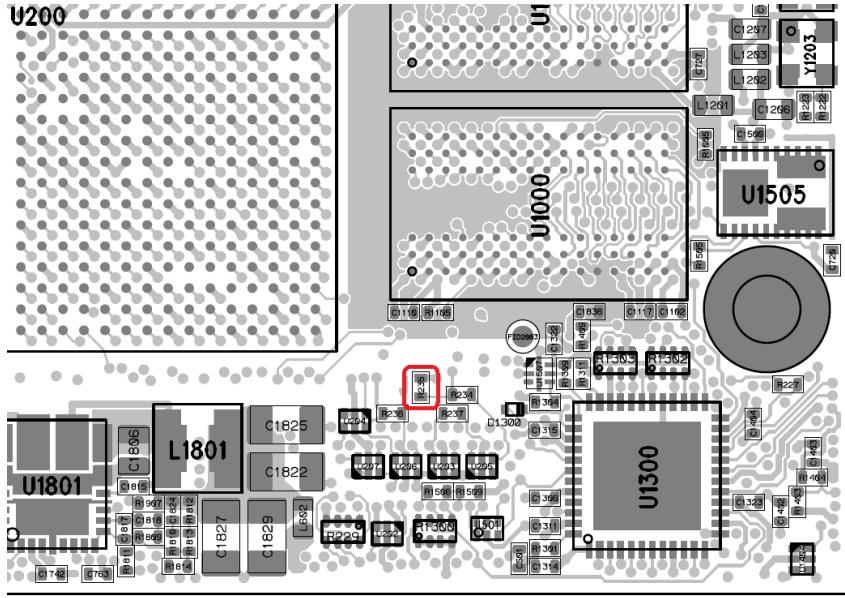

Figure 17: JTAG Boot Mode Resistor - Assembly Drawing Top View (lower right part) for Revision 4 Modules
- Short-circuit R235 (see Figure 17) while powering-up the module (in order to sample the MPSOC boot selection pins correctly for JTAG boot mode)